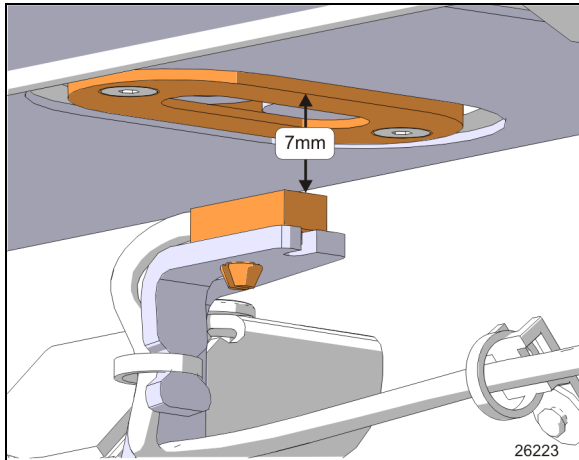
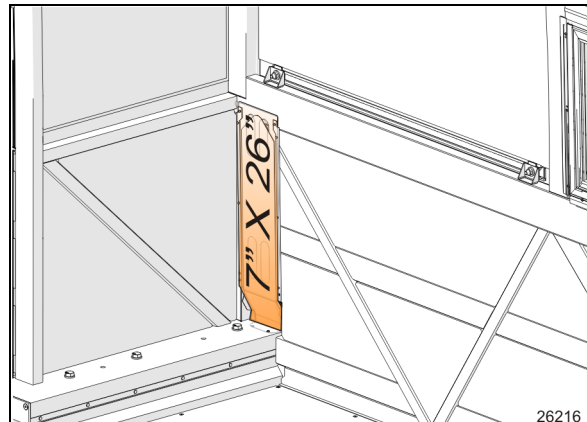

FIGURE 52: SENSOR VERTICAL ADJUSTMENT
FIGURE 53: FRONT LEFT SLIDE-OUT "NO DRILLING" ZONE
- Bring slowly the sensor toward the outside of the vehicle until the LED turns on. When it does, move it 0.079" (2mm) further in the same direction. Adjust vertically to 7mm from magnet support face (Figure 52). Tighten the mounting bracket screws.
- Bring slowly the sensor toward the outside of the vehicle until the led turns on. When it does, move it 0.079" (2mm) further in the same direction and adjust vertically to 7mm from magnet support face (Figure 52). Tighten the mounting bracket screws.
No drilling is allowed in the zones identified by Figure 52, and Figure 53. *This applies on both sides of the slide-out room.*